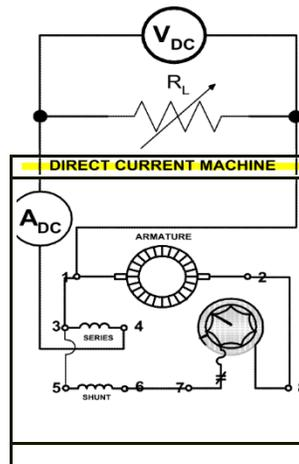

FIGURE 12.15
Step 3: a) Using your EMS DC Motor/Generator, the Data Acquisition Interface (DAI) modules in the EMS workstation and Resistance Modules, connect the circuit shown in Figure 12.15.